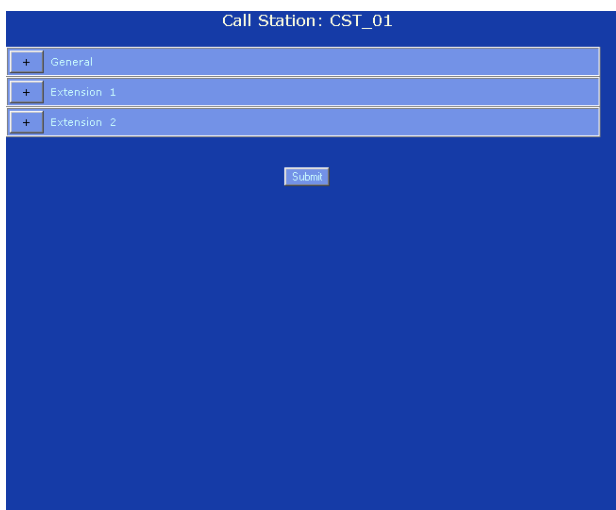

figure 38.6: Zone selection, step 2
- 2 Click the name of the call station to which the keypad of which the key that must be configured has been connected. A screen similar to the one in figure 38.6 appears in the main frame of the web interface.